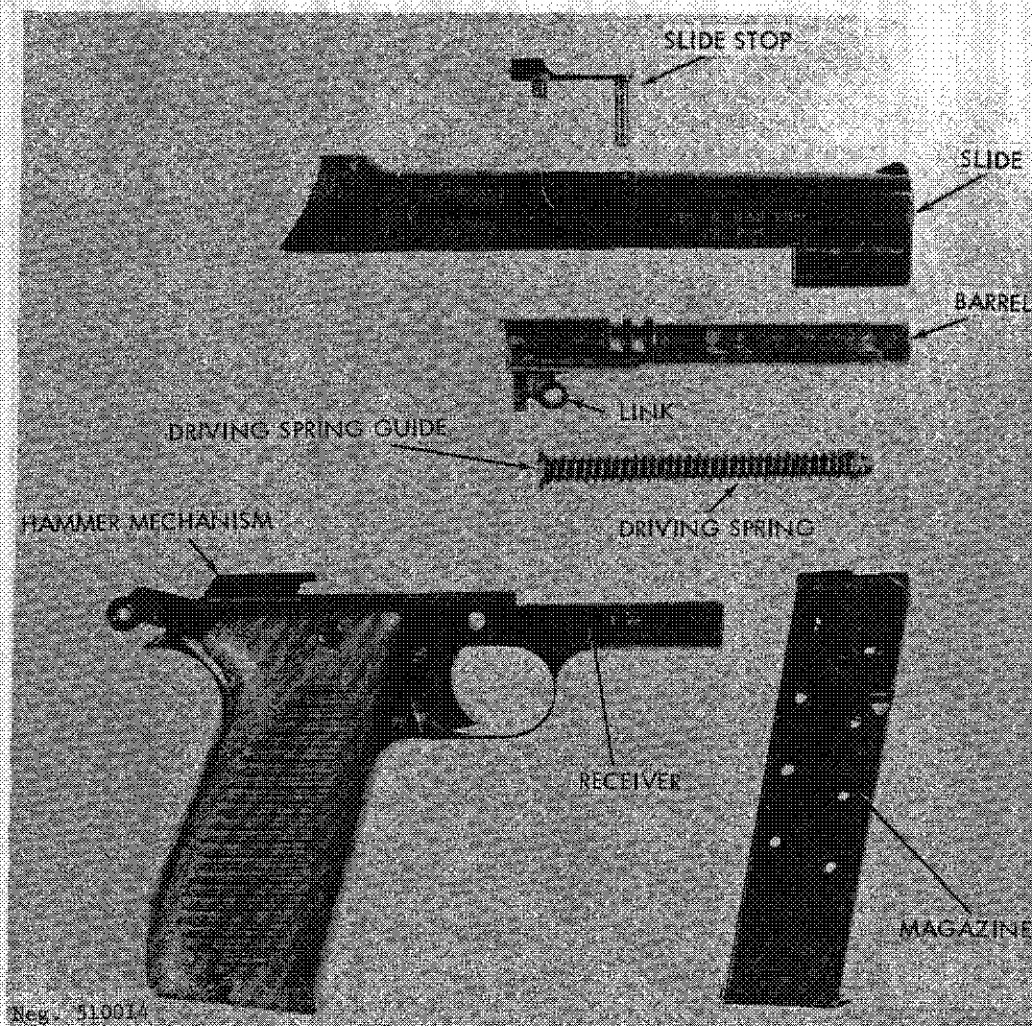

Figure 15. Model 1950 pistol, disassembled.
d. The hammer mechanism (fig 15) can be pulled up and out of the receiver as a unit. No further disassembly is required or desirable.
e. To reassemble, invert the slide and place the barrel into the slide, muzzle end first. Insure that the barrel has dropped into the locking position with the slide and insert the recoil spring, rounded end first, into its tunnel under the slide. Press the rear end of the spring into position against the link (fig 15).